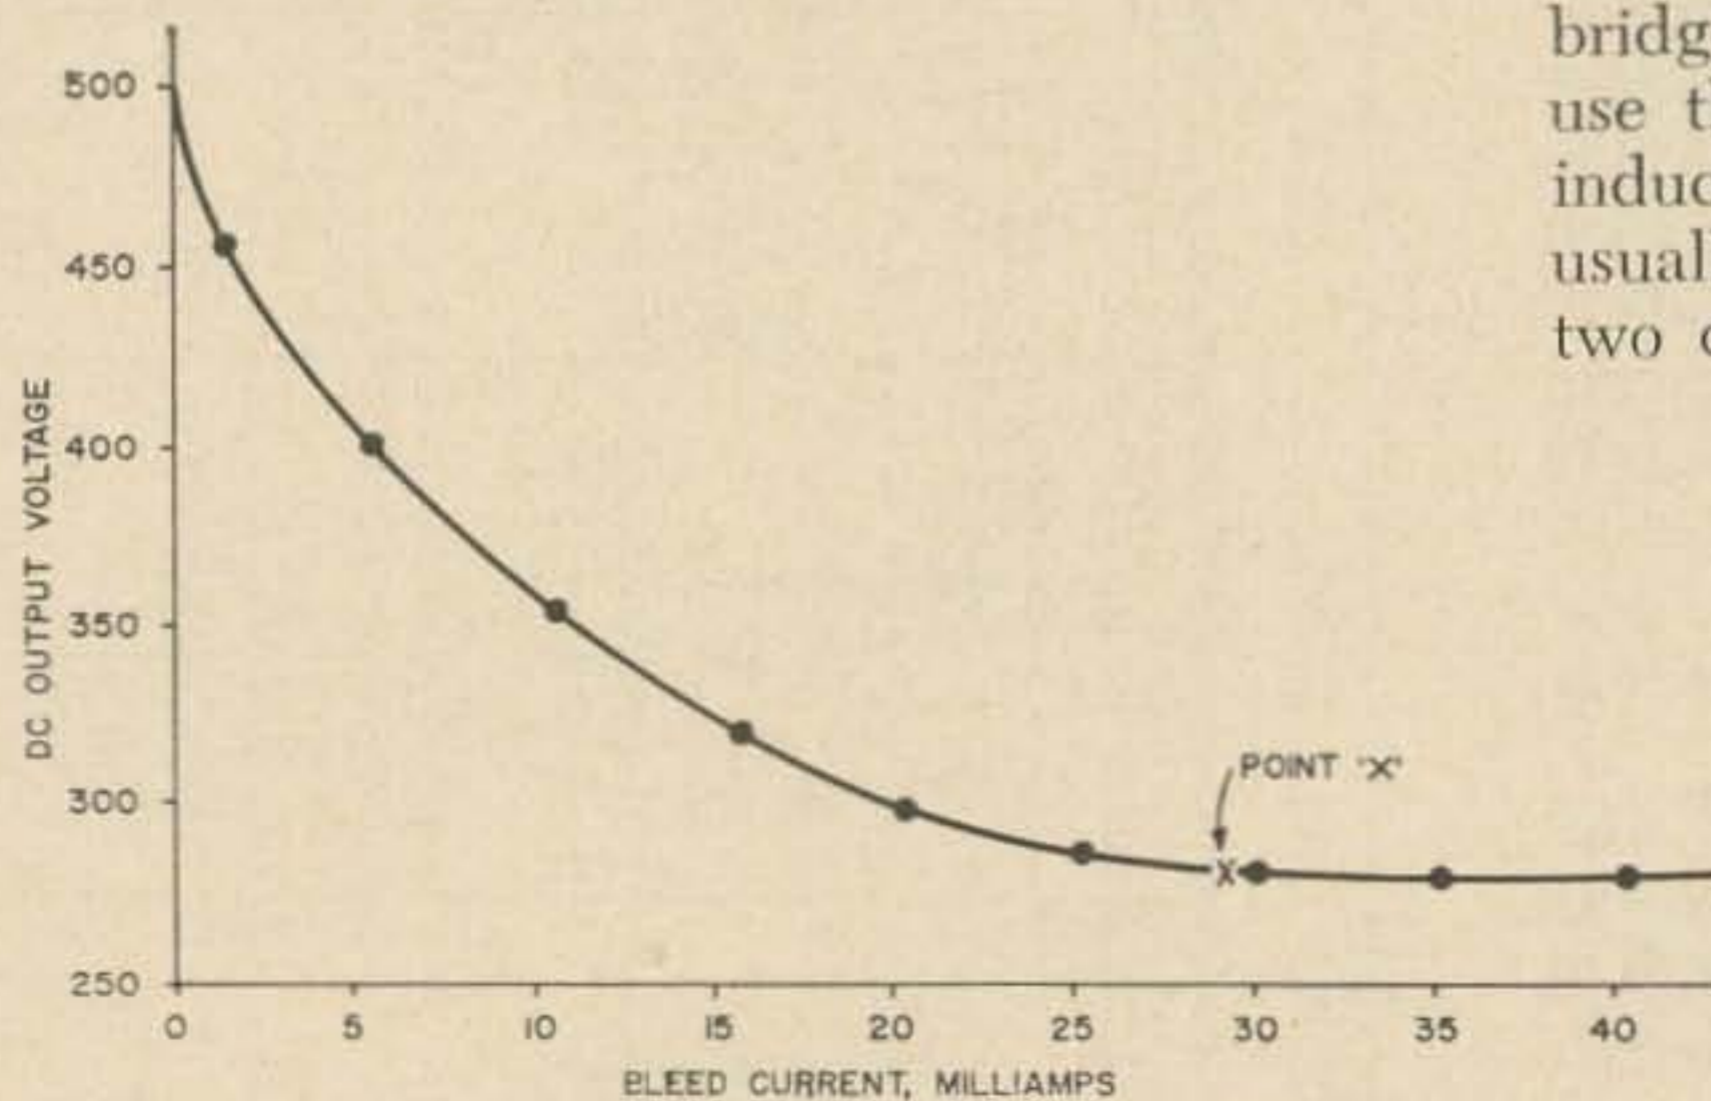

Fig. 2. Typical shape of curve that will result from technique given in step three in the text. Point X gives minimum allowable bleeder current.
3. Now disconnect the bleeder resistor and measure the output voltage (continue using reduced primary voltage). Then gradually load the supply, measuring the output voltage and current at several points as the loading is increased. These points can then be used to plot a curve like that in Fig. 2. A good way to provide this variable load is by varying the bias on a spare transmitting tube hooked up as in Fig. 3. The plate dissipation rating of the tube may be exceeded as each reading is made, but if the supply is turned off between readings while the bias is reset, the tube will not be damaged.
4. The lowest allowable bleed current is that corresponding to point X on the curve in Fig. 2, that is, the point where the curve flattens out. Add about 30% safety factor to this value to get the proper bleed current, I_b . If the value obtained is very much different from that used in Step 1, use this new value and go back to Step 1, repeating the procedure. You will probably find it unnecessary to change C_1 , if you do repeat the steps. And you shouldn't have to repeat the procedure more than once.